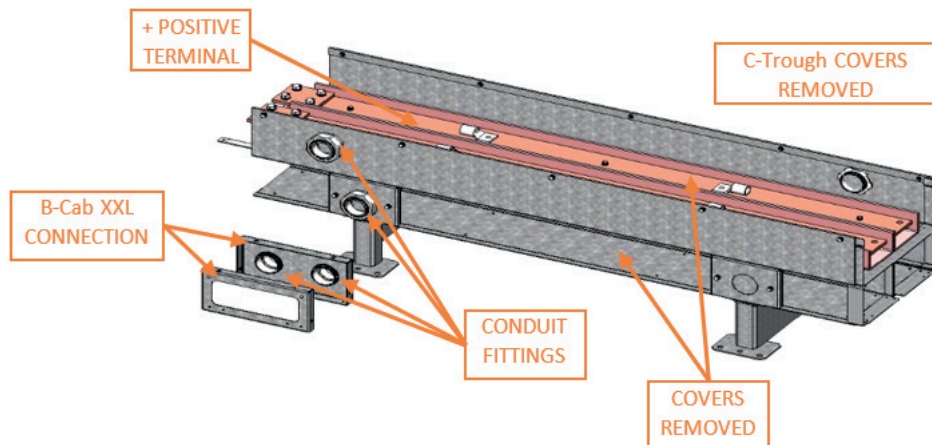

Figure 73. C-Trough Connection to B-Cab XXLs
- **Step 10:** Locate the two holes to be installed onto the side panel of the C-Cab XXL. Using the interface unit as a template (highlighted in red in Figure 73), mark the holes required for attachment to the C-Cab XXL. Use a 4-inch conduit punch to create the marked holes.
- **Step 14:** Remove all the covers to proceed with the installation of all the B-Cab XXL conduits that house the cabling and harnesses. Refer to Figure 73 for visual details.